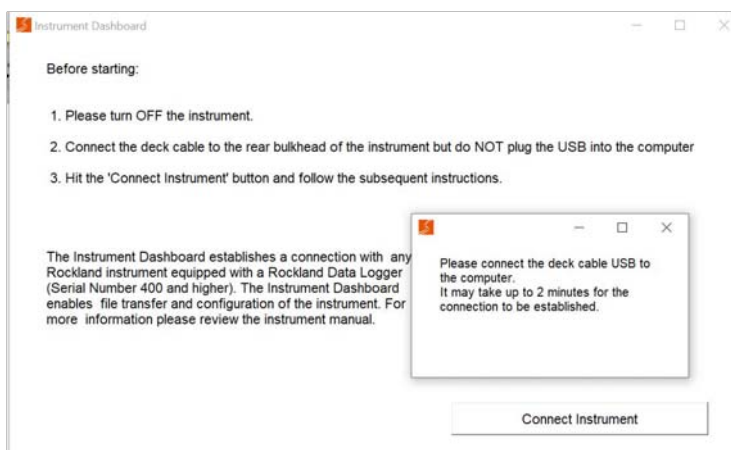

Figure 32: Zissou Essentials Prompt to Connect USB to Computer.
6. When prompted (Figure 32), plug the USB end of the deck cable to the computer and wait for the RDL Memory Module to be detected (up to 2 minutes). A notification should indicate when the connection has been established.